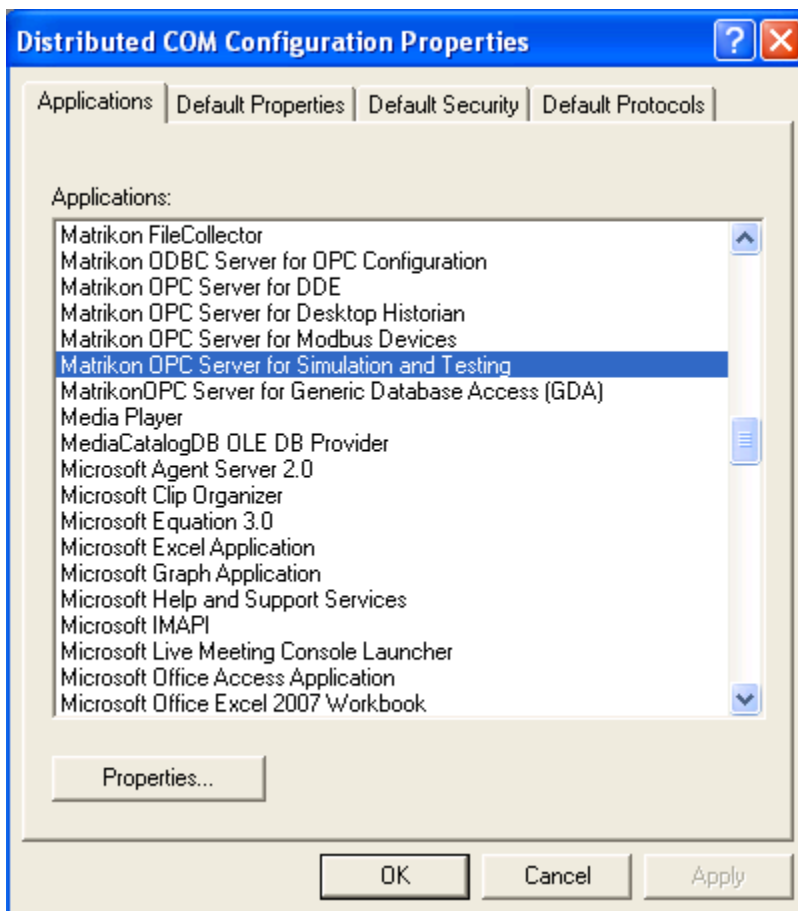

Figure 71 - Distributed COM Configuration Properties Window
3. The **Distributed COM Configuration Properties** window (Figure 71) appears.